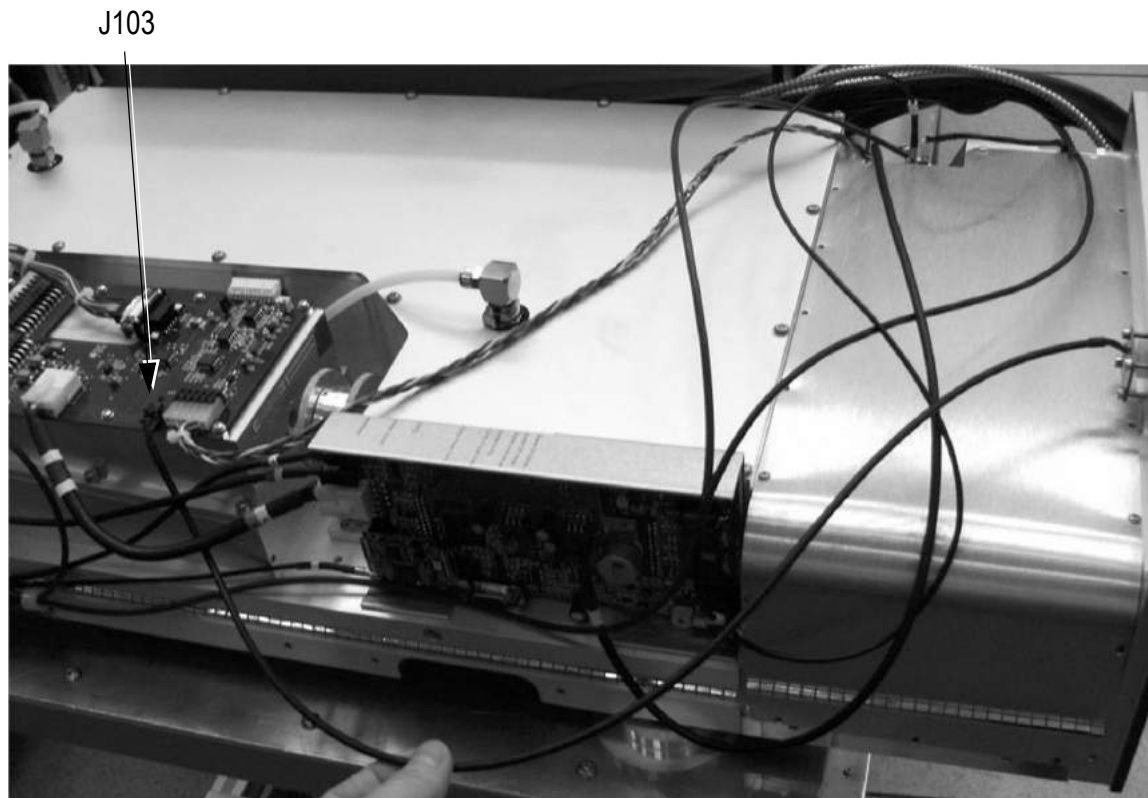

Figure 5.18-2. Pump Board Cable Connection
5. Disconnect the cable end from the J103 on the pump board as shown in Figure 5.18-2 below.